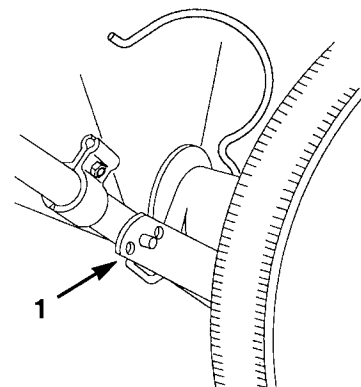

Figure 25
- D.** Re-connect the handle adjustment lever to the handle stud, making sure to trap the spring between both parts (Fig. 25).